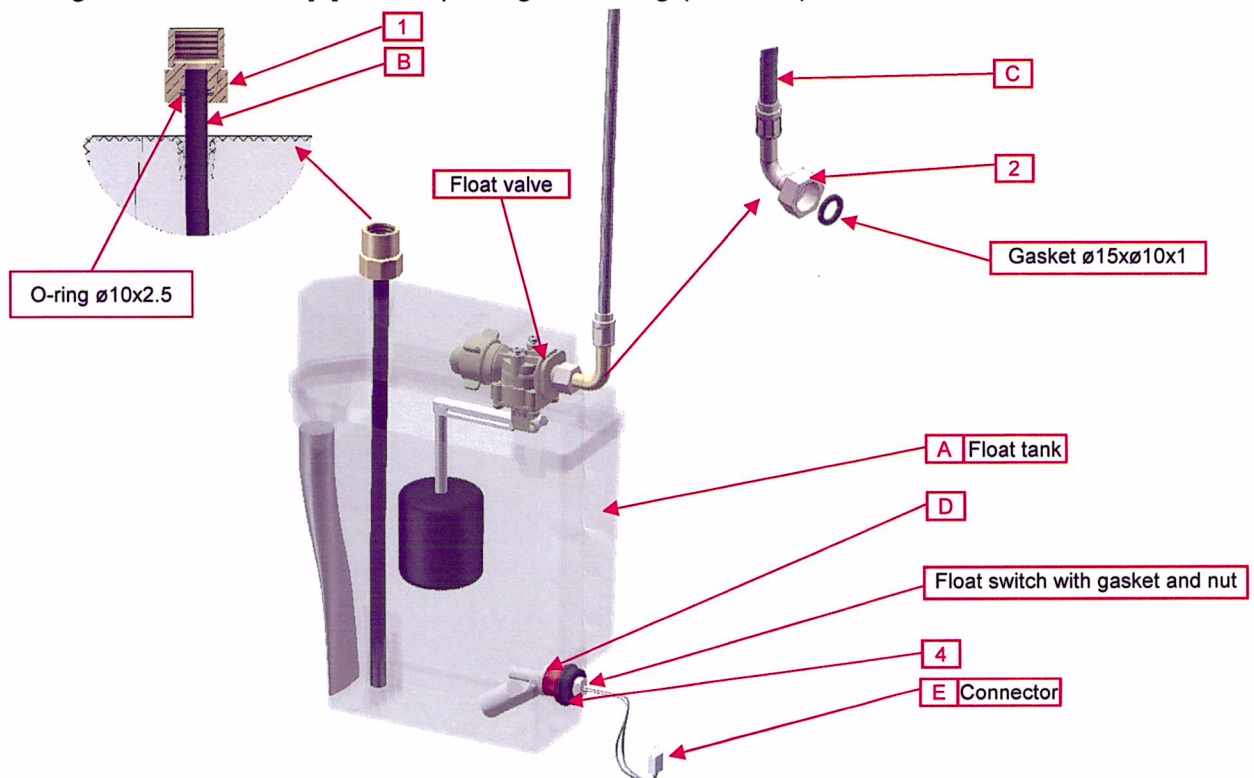

Figure 1: Break tank; SpiroVent Superior
- 2) Disconnect the hose [C] from the float valve (see figure 1).
- 3) Loosen the nut [1] (see figure 1).
- 6) Disconnect the connector [E] with 2 -pins of the float switch (see figure 1).
- 7) Untighten the nut [4] of the float switch (see figure 1) so that so that switch can be removed.
- 8) Mount the new float switch and tighten the nut [4] sufficiently (see figure 1).
Make sure the floater can move in the position as indicated in figure 1.
- 10) Connect the connector [E] with 2-pins (see figure 1).
- 12) Take hose [3], replace gasket ($\text{Ø}15 \times \text{Ø}10 \times 1$) and connect hose to the float valve (see figure 1).
- 14) See figure 1: fasten nut [1] after replacing the O-ring ($\text{Ø}10 \times 2.5$)